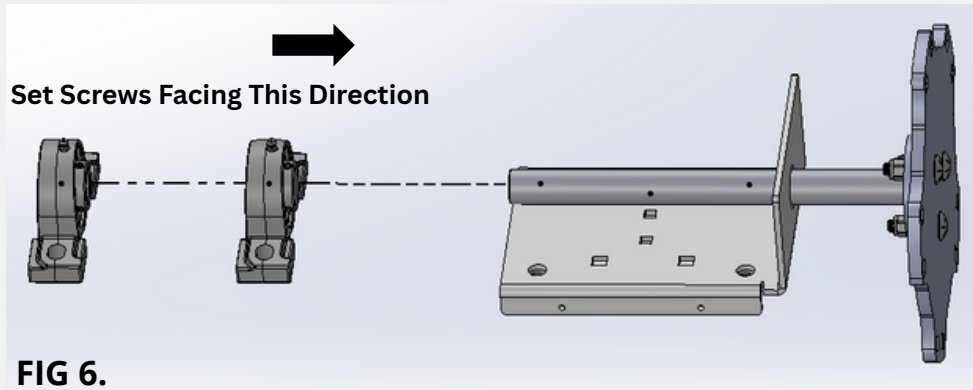

FIG 6.
4. Slide Bearing Shaft through the Center hole on the Bearing Plate as shown in Fig. 6
6. Slide Bearings onto the Bearing Shaft, making sure the set screws are facing the front of the bracket, as shown in Fig. 6